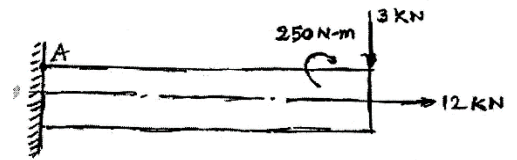

Figure 1
- 29) A machine member of 50mm and 250mm long is supported at one end as a cantilever. The arrangement of load on the member is shown in figure 1. Determine the tensile, compressive and shear stresses at appoint A. **(Dec 2015)**